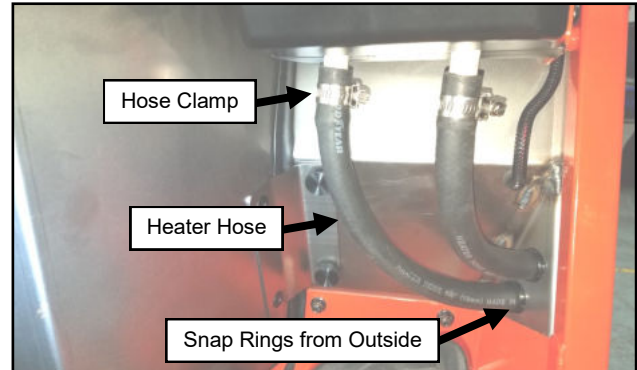

Fig. 20.2 (Snap Rings and Heater Hose)
- 20.2 From outside the cab, install both $\frac{3}{4}$ " snap bushings into the large holes in the right A-pillar floor board. Feed both ends of the $\frac{5}{8}$ " diameter hose through the bushings to the inside of the cab, connect them to the nipples on the heater, and secure them with 1" hose clamps. See Figure 20.2.